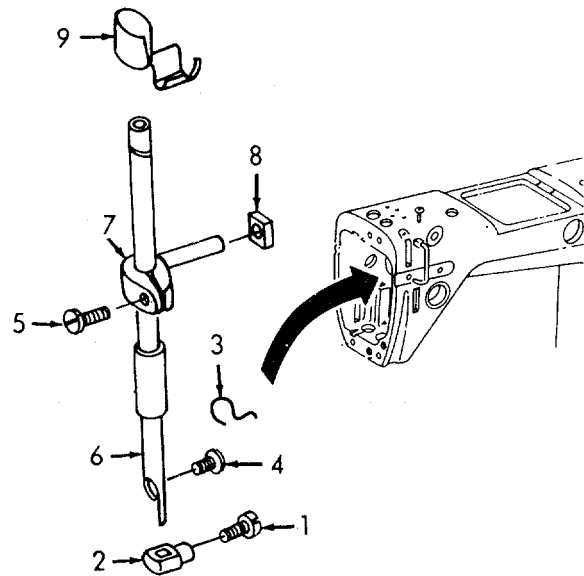

Figure 6-65. Needle Bar, Removal
- (10) Refer to Figure 6-65. Loosen the setscrew (1) and remove the needle clamp (2).
- (11) Remove the thread guide (3).
- (12) Remove the setscrew (4).
- (13) Loosen the setscrew (5) and slide out the needle bar (6).
- (14) Remove the connecting stud (7) and the slide block (8).
- (15) Remove the oil wick retainer (9) and the attached oil wick (if required).